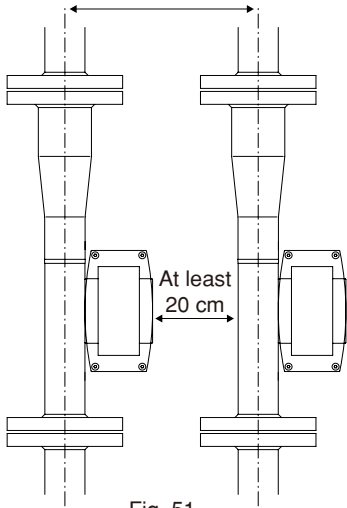
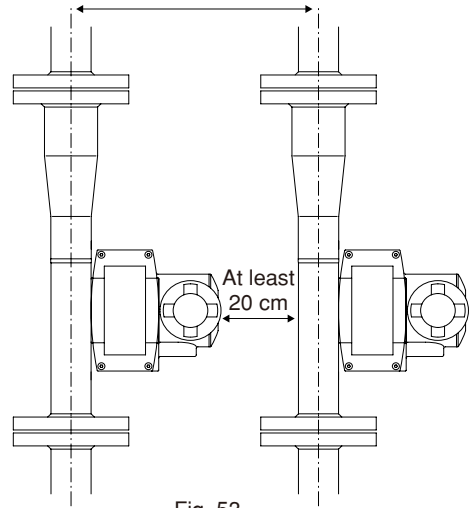

Fig. 51
Fig. 53
- When installing two or more flowmeters, place them at least the distances shown in Fig. 51 to Fig. 53 apart from each other to avoid mutual interference.